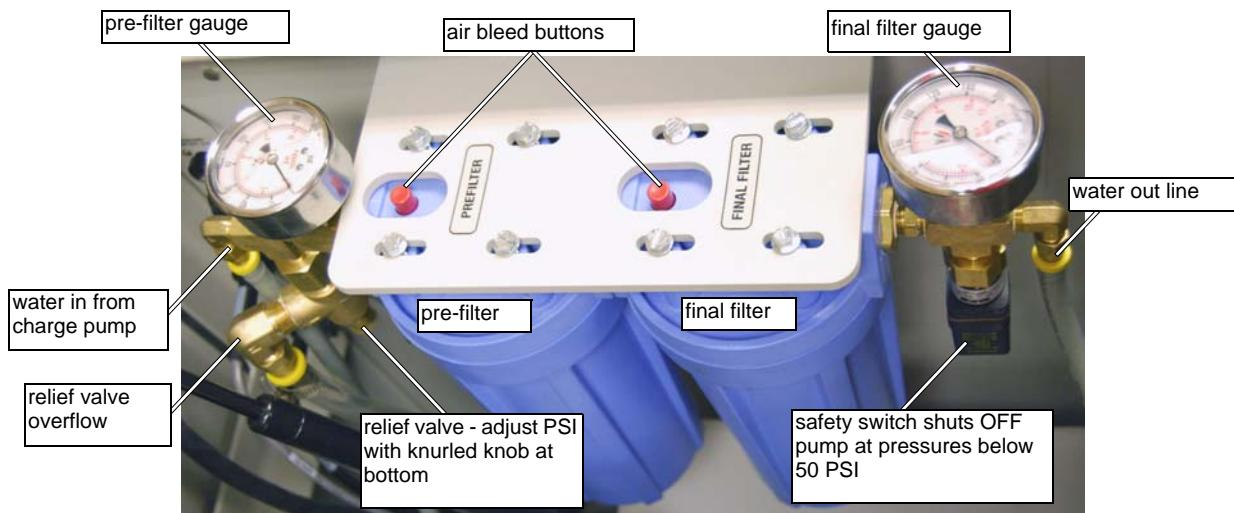

Figure 5-51: Pump Internal Water Filtration System
3. When the Charge Pump is turned ON, water from the white tank reservoir feeds the preconditioned water to the 10" blue filters in the pump cabinet (Figure 5-51).
Note: The pre-filter gauge (Figure 5-51) reads the pressure of the charge pump before the filters (Pressure should read higher than 75 psi and can be adjusted up to 120 psi)